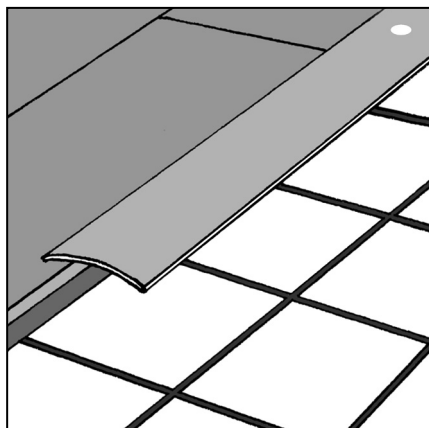

Figure 58 Threshold strip
- > When adjoining other floor coverings, finish in the doorway. An appropriate expansion gap should be left between the interlocking flooring and the adjoining floor covering. This can be covered using a suitable threshold or diminishing strip (Fig 58 overleaf).